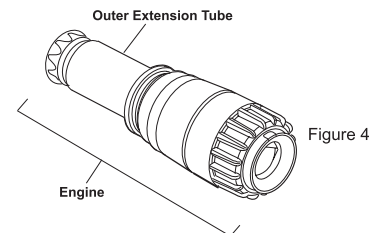

Figure 4
2. Remove the engine (Figure 4) from the cleaner body.